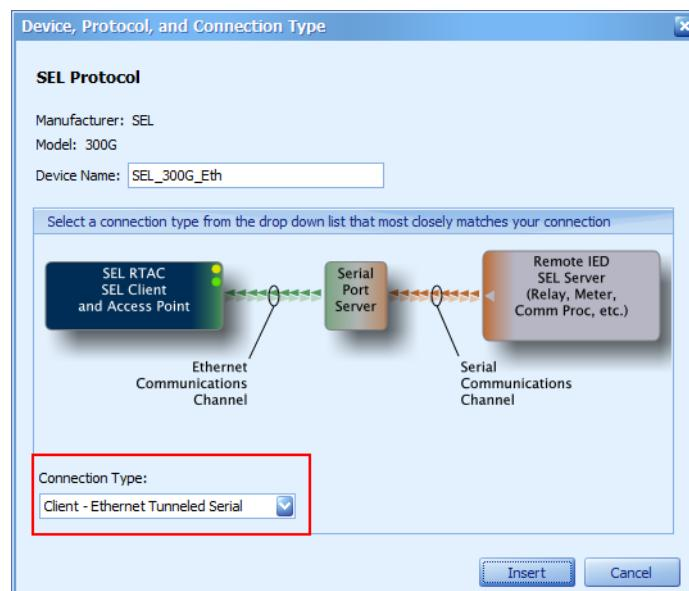

Figure 133 Client Ethernet Connection
Step 13. If you followed *Step 9* through *Step 12* to set up a serial connection, skip this step and *Step 14*. For an Ethernet connection, add the SEL-300G with SEL Protocol, as described in *Step 7*. In the window that appears, select **Client - Ethernet Tunneled Serial** as the **Connection Type** (see *Figure 133*).